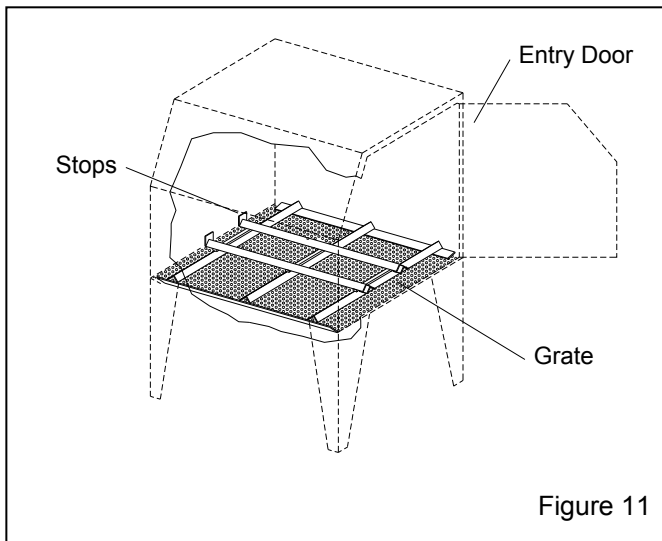

Figure 11
3.5.2 Place the inside track in the cabinet over the existing grate as shown in Figure 11.